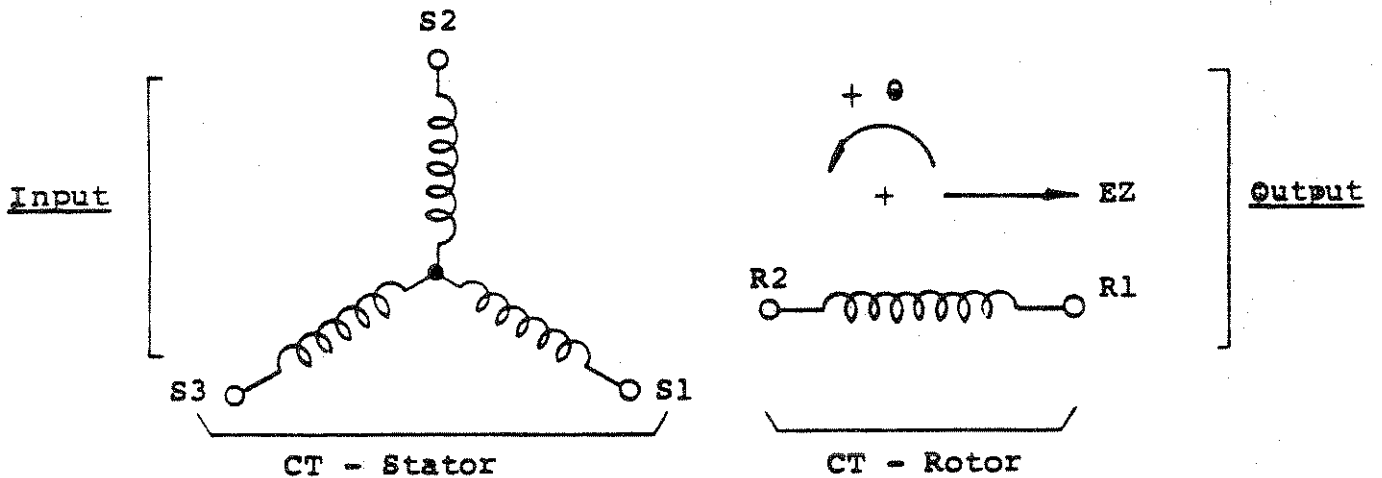
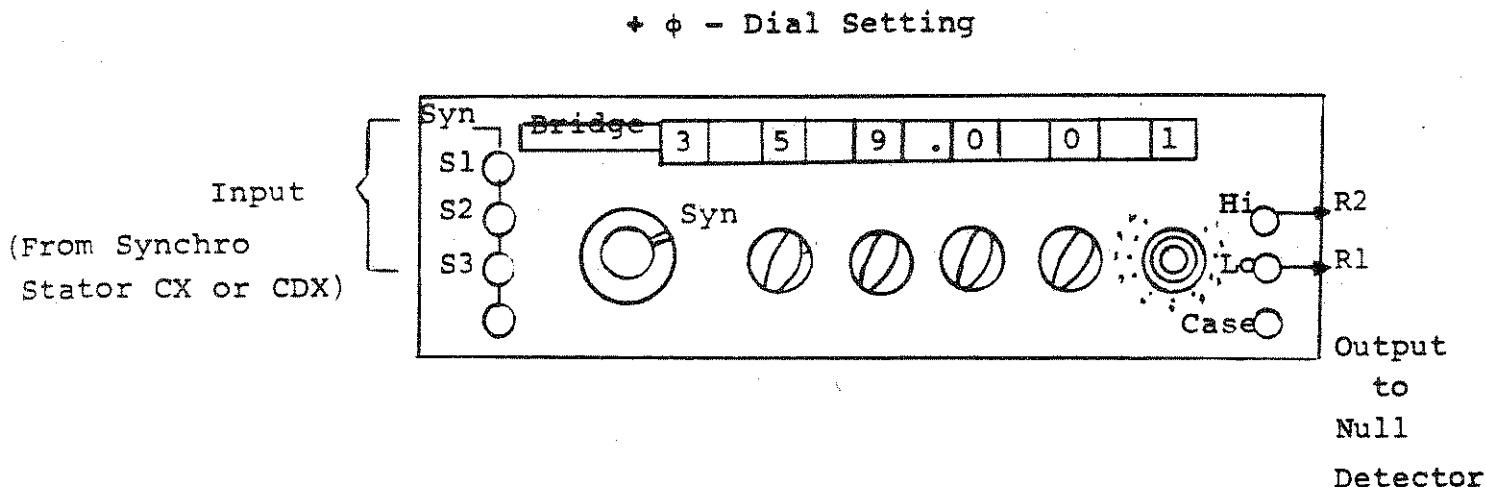

Figure 4-3. Synchro Receiver (at EZ) - CT
Figure 4-4. Model 540 Bridge - Synchro Mode
The schematic representation for a synchro-receiver (CT) is shown in figure 4-3.
The input and output terminals of a North Atlantic Series 540 Bridge in the synchro mode are analogous to those of a synchro receiver (CT). The connections which correspond to figure 4-3 are shown in figure 4-4.